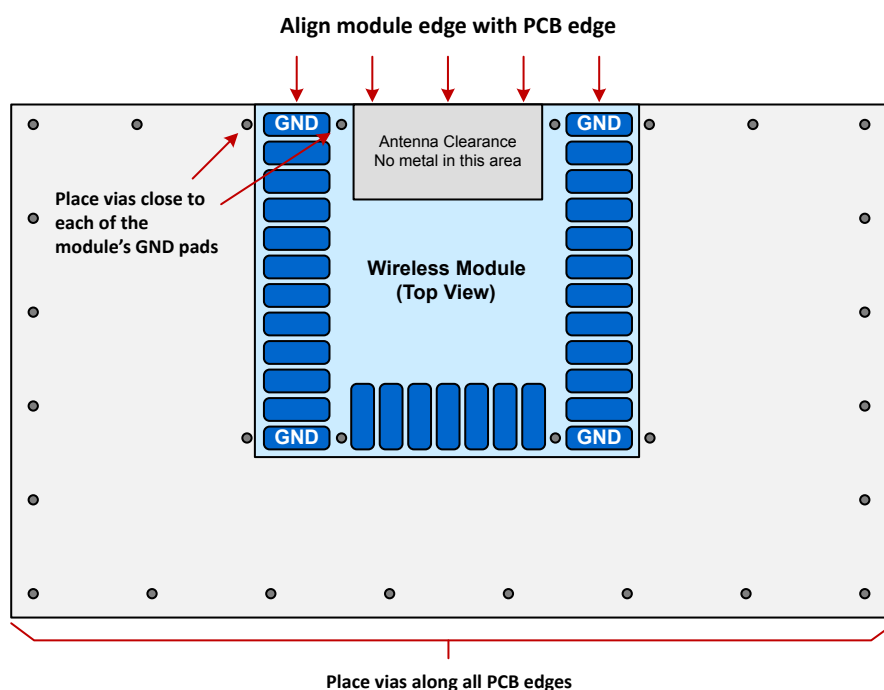

Figure 4.1. Recommended Application PCB Layout for BGX13P with Integrated Antenna
- Place the module at the edge of the PCB, as shown in Figure 4.1 Recommended Application PCB Layout for BGX13P with Integrated Antenna on page 11.